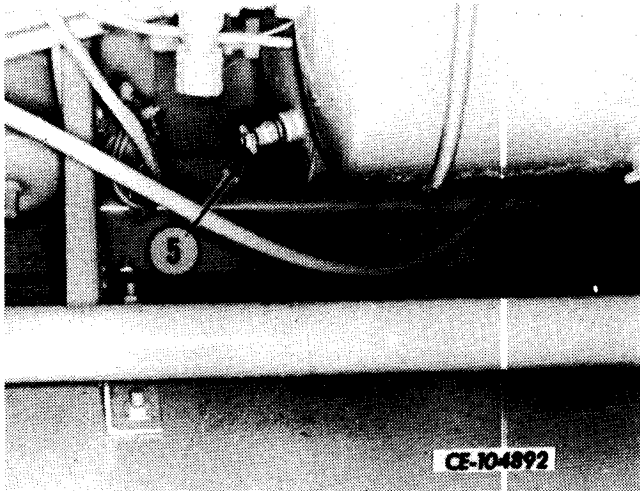

Fig. 5
5. Open the single and dual air tank drain valves (Fig. 5 and 6) and if equipped, the automatic brake apply air tank drain valves, located above the rear axle, a maximum of two turns. Drain accumulated water, then close the valves.